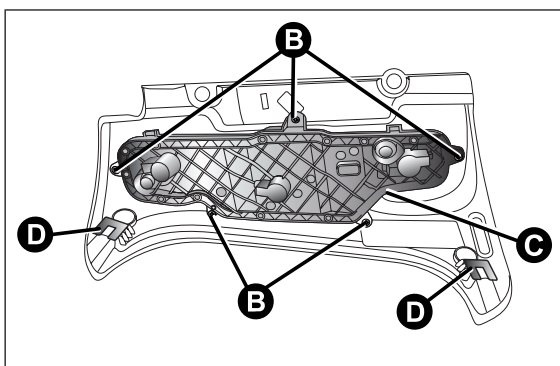

fig. 122
- ☐ undo the five screws B from their seats and remove the bulb holder C fig. 122;